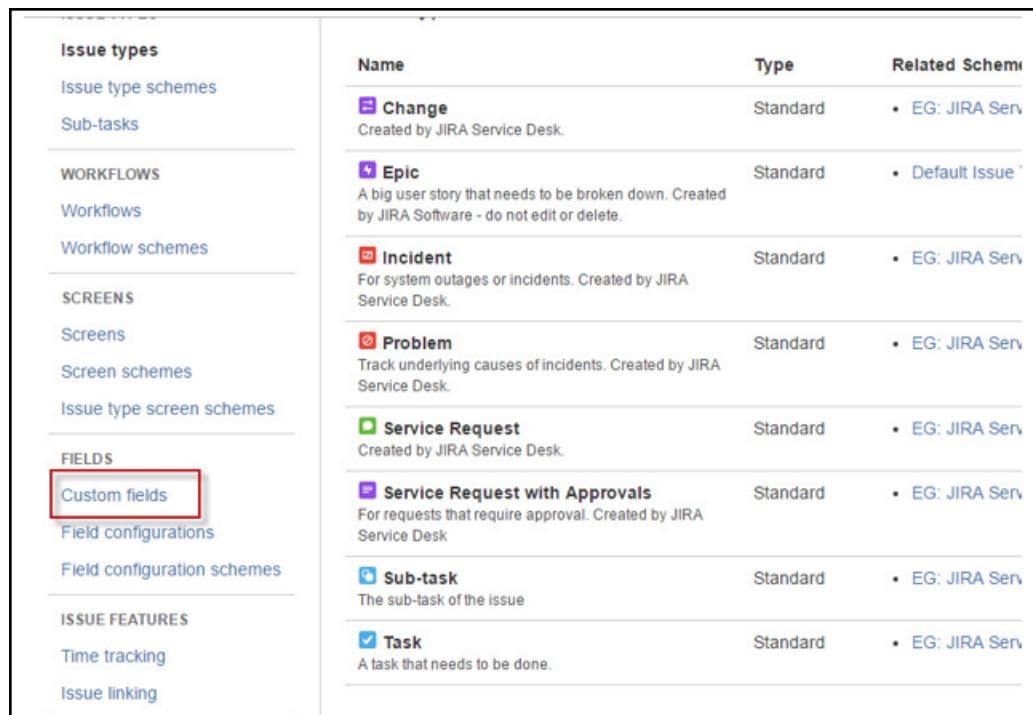

Figure 5.46: Clicking on the Custom Fields option
- When Figure 5.46 appears, click on the Custom Fields option under fields.